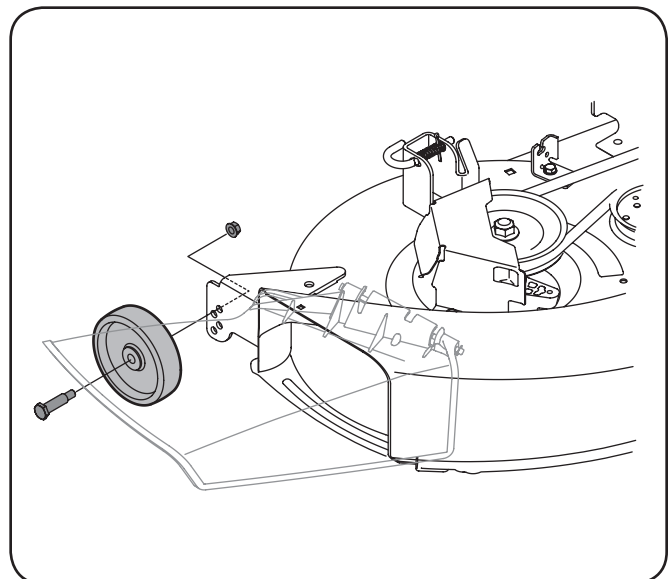

Figure 3-7
- b. Remove the gauge wheels by removing the lock nuts and shoulder screws which secure them to the deck. See Fig. 3-7.